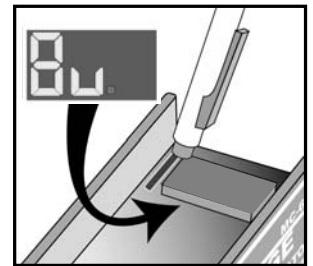

Figure 17 - Voltage adjustment. Bulk Voltage shown.
1. **ACTIVATE-HOLD** switch when the desired code is displayed (see Figure 17. Bv=bulk, Av=absorption, or Fv=float voltage). Standard preset program voltage will be highlighted. Display will scroll upward. **RELEASE** when desired value is shown.